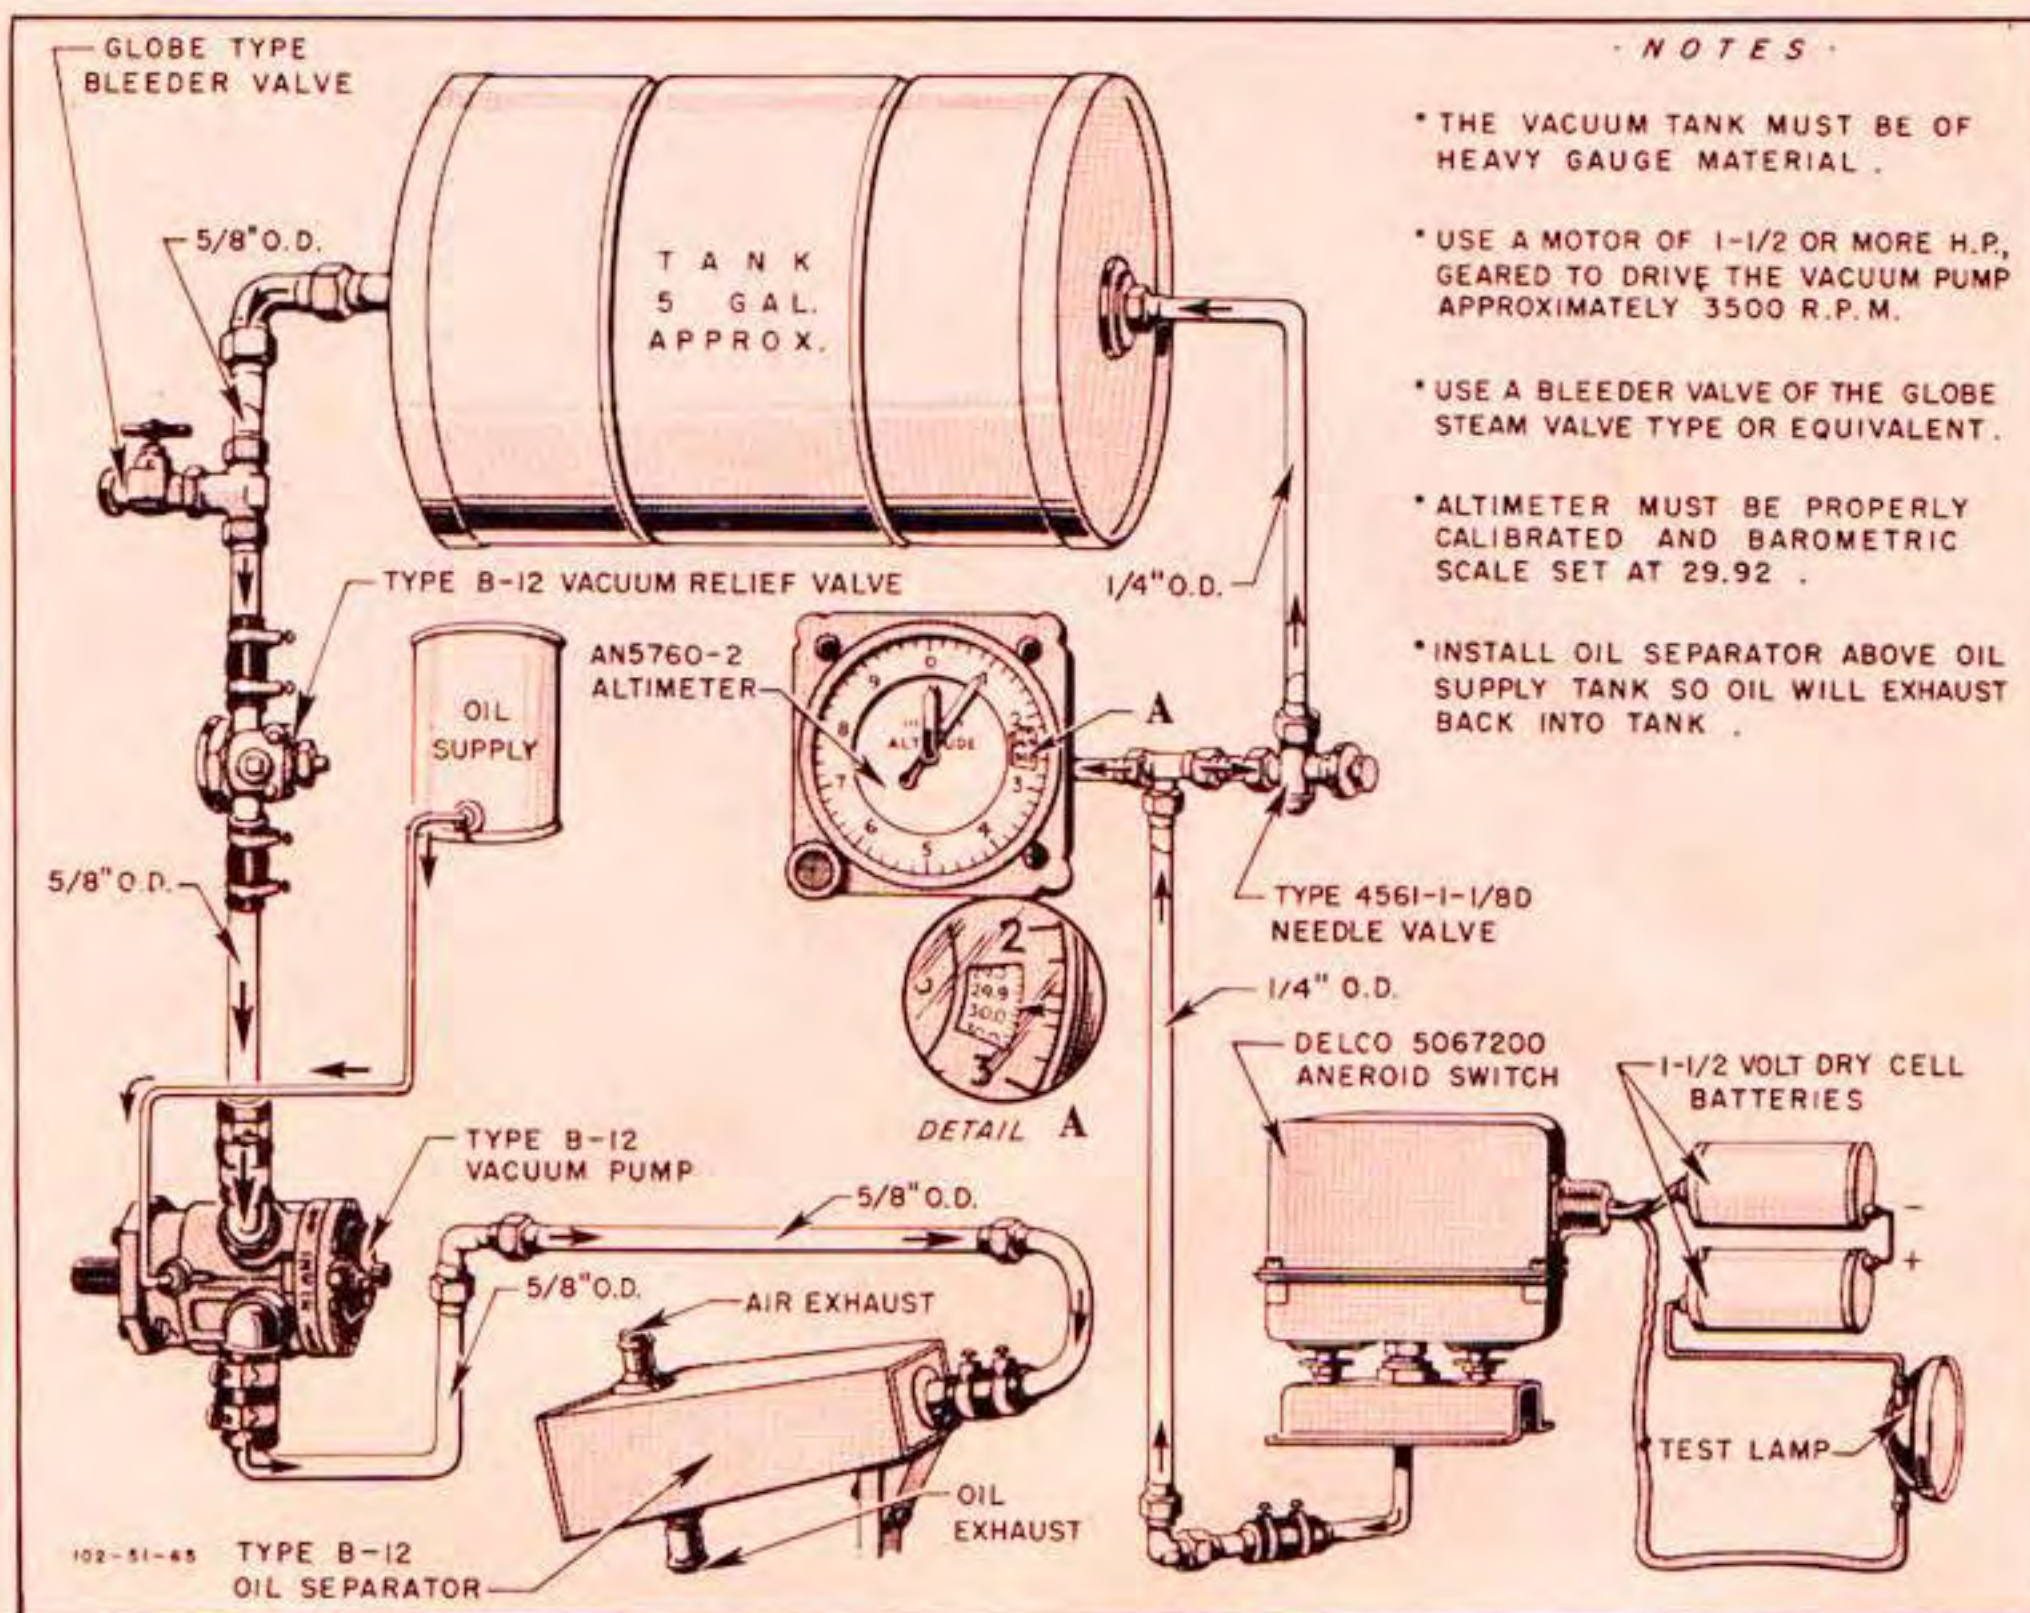

Figure 356—Supercharger Aneroid Test Stand
(4) CALIBRATING SUPERCHARGER ANEROID SWITCH.—If laboratory equipment or replacement switches are not available, a simple test stand (figure 356), made from standard aircraft parts, can be used to calibrate supercharger aneroid switches.
(a) Set up a test stand. (See figure 356.)
(4) CALIBRATING SUPERCHARGER ANEROID SWITCH (Square "D" Class 9315, Type).—As previously mentioned, if laboratory equipment (bell jar, etc.) or replacement switches are not available, a simple test stand (figure 356) made from standard aircraft parts can be used to calibrate supercharger aneroid switches.